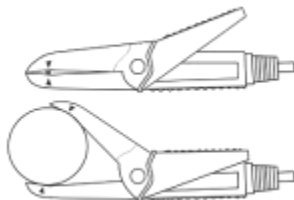

Figure 2
- The conductor should be positioned at the middle of the clamp (Figure 2).